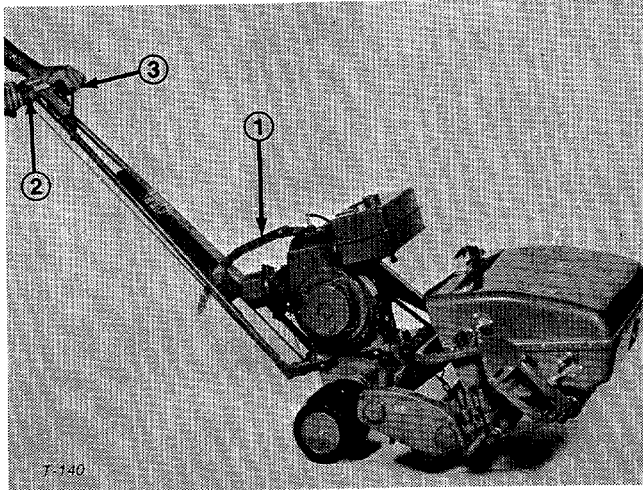

Figure 17
2. Place the handle assembly in the uppermost notch on handle adjusting bar. Set throttle control in SLOW, tip front of machine up and slowly increase engine speed while gradually engaging traction drive control lever so mower moves forward slowly (Fig. 17).